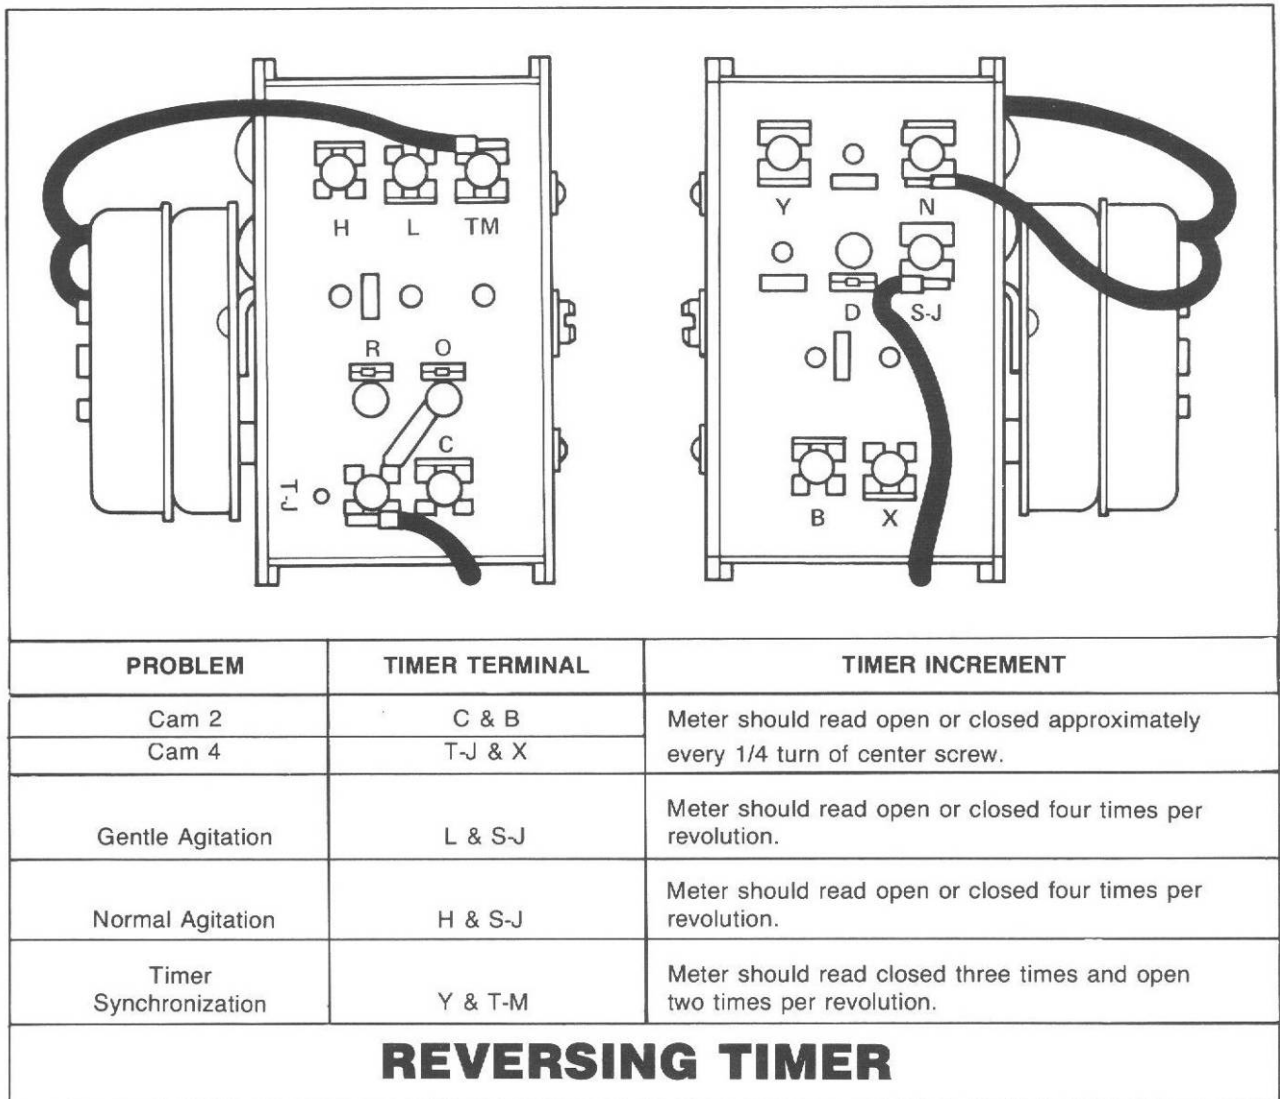

Figure 55
- c. Apply meter probes to timer terminals indicated in *Figure 55* for continuity check.